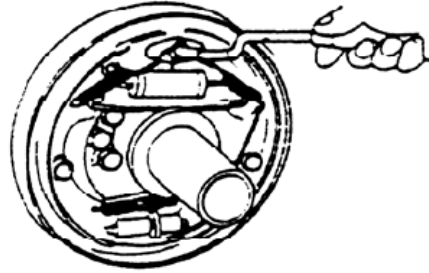

Fig. 2-22
(8) Install the shoe guide plate on the anchor pin, and install the shoe return spring. (See Fig. 2-22)